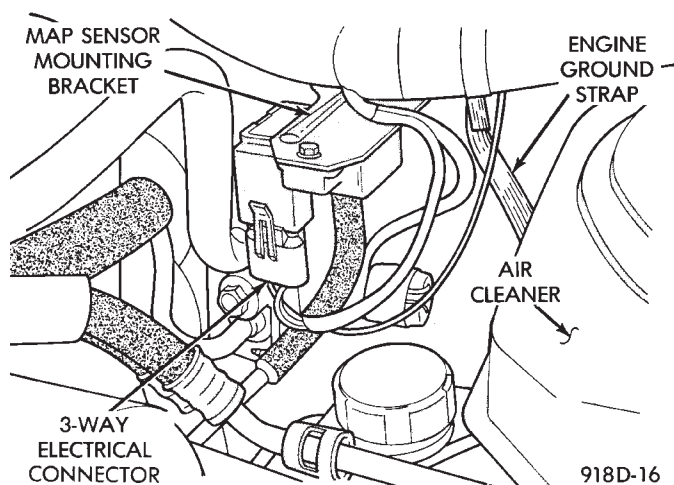
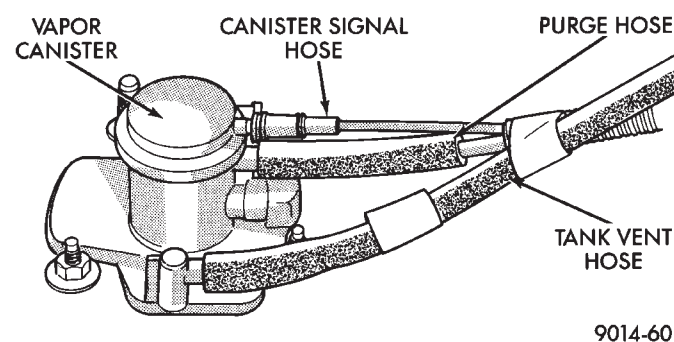

Fig. 5 Manifold Absolute Pressure (MAP) Sensor
Fig. 6 Vapor Canister
(6) Verify the connector is attached to the MAP sensor (Fig. 5).
(7) Verify the vacuum hose is attached to the MAP sensor (Fig. 5).
(8) Verify the alternator wiring and belt are correctly installed and tightened.
(9) Verify hoses are securely attached to vapor canister (Fig. 6).